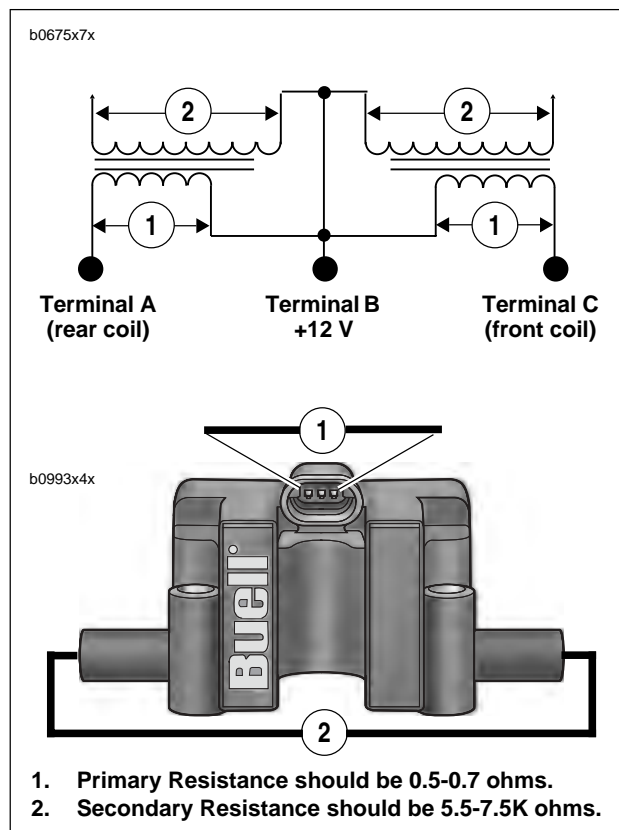

Figure 4-182. Ignition Coil Testing
3. See Figure 4-182. Place multimeter wires on primary coil windings (1).
3. See Figure 4-182. Place multimeter wires on secondary coil windings (2).